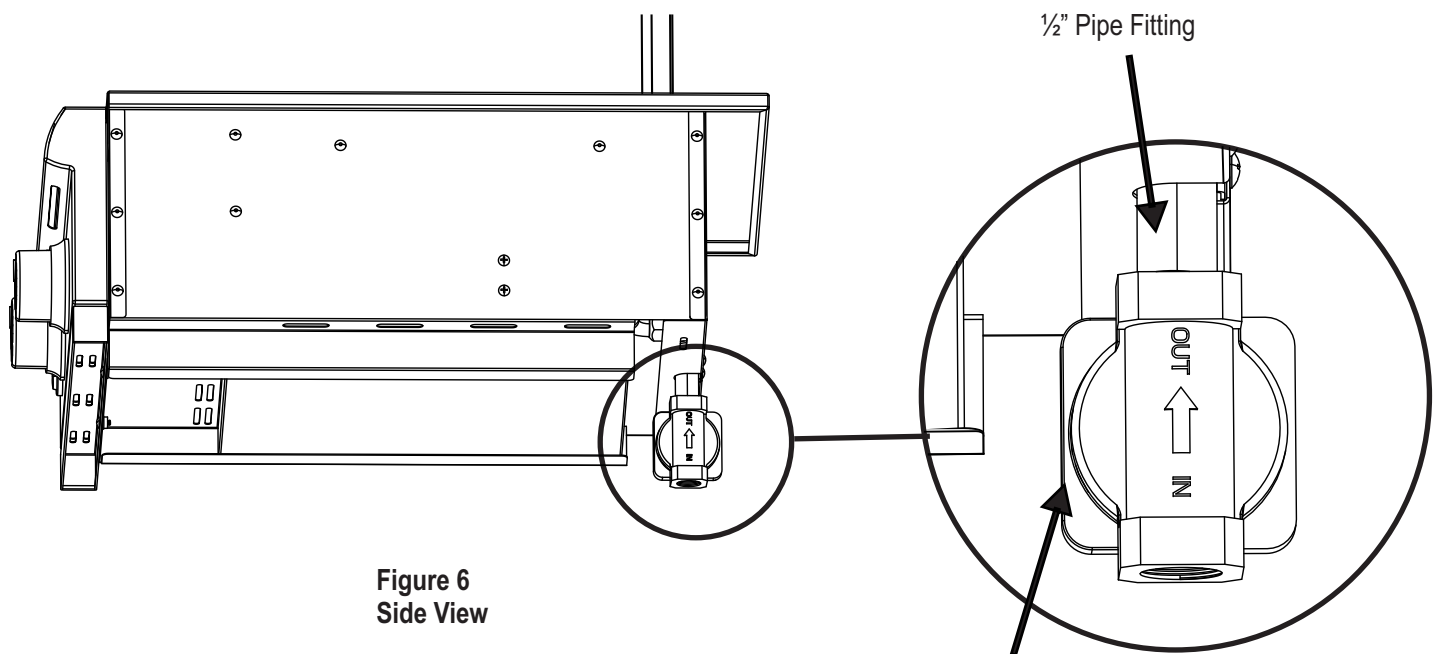

Figure 6
4. Connect the natural gas appliance regulator (provided) to the $\frac{1}{2}$ " pipe fitting connection taking care to connect the outlet side of the regulator to the pipe fitting connection (see Figure 6). The inlet and outlet sides of the regulator are noted by markings on the rear of the regulator body.